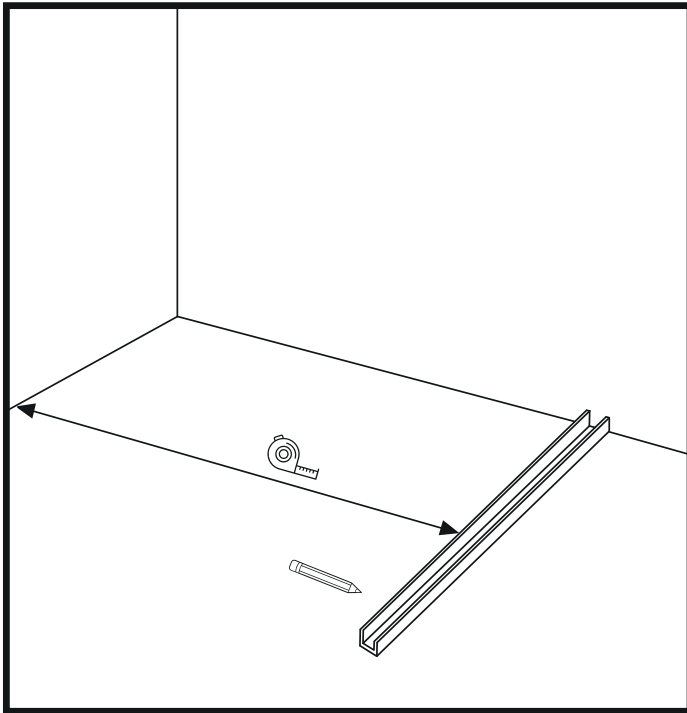

Figure 1
1. Place the U-profile on the floor, with the end against the wall and parallel to the opposite wall. Choose the distance of the U-profile from the opposite wall according to your wishes, based on the working width of the telescopic tube. (Figure 1)